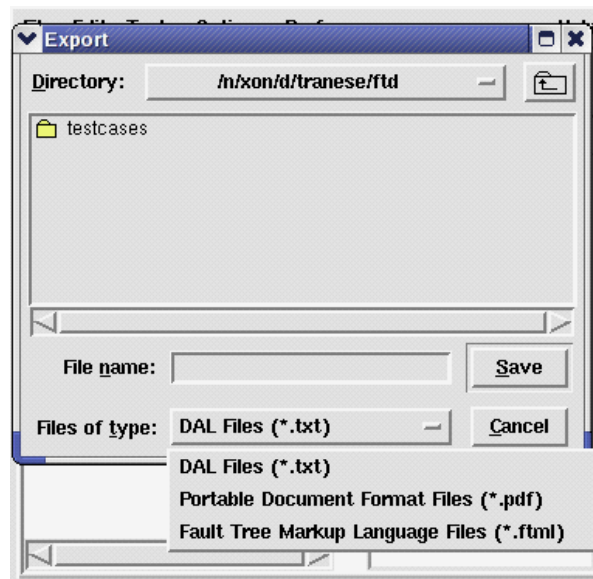

Figure 10. Export dialog box.
The “Export” command exports fault trees to Portable Document Format (PDF) and FTML file formats. This command also exports DALs to tab-delimited text files. To export fault trees or DALs, the user needs to select “Export” from the File menu, enter a file name, select a file type, and press the Save button (see figure 10).
- DAL file – To export a DAL to a file, the user needs to enter the desired file name and ensure that the selected file type is DAL Files (see figure 10). The DAL will be written
- PDF file – To export a fault tree to a PDF file, the user needs to enter the desired file name and ensure that the selected file type is Portable Document Format Files (see figure 10). Only the active system will be written to the file. The PDF can be viewed using Adobe Acrobat Reader. It can also be inserted into a Microsoft Word document or PowerPoint presentation. Note that file names need to be saved with a .pdf extension.
- FTML file – To export an FTML file, the user needs to enter the desired file name and ensure that the selected file type is Fault Tree Markup Language Files (see figure 10). Only the active system will be written to the FTML file. Attribute information such as fill color and font style will not be stored. When an FTML file is opened in FTD, the default colors and font style will be displayed. Note that file names need to be saved with an .ftml extension.